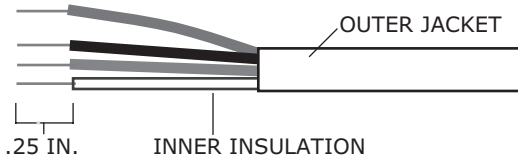

Fig. 32 — Rnet Cable Wire
2. Strip about 1/4 in. of the inner insulation from each wire. See Fig. 32.